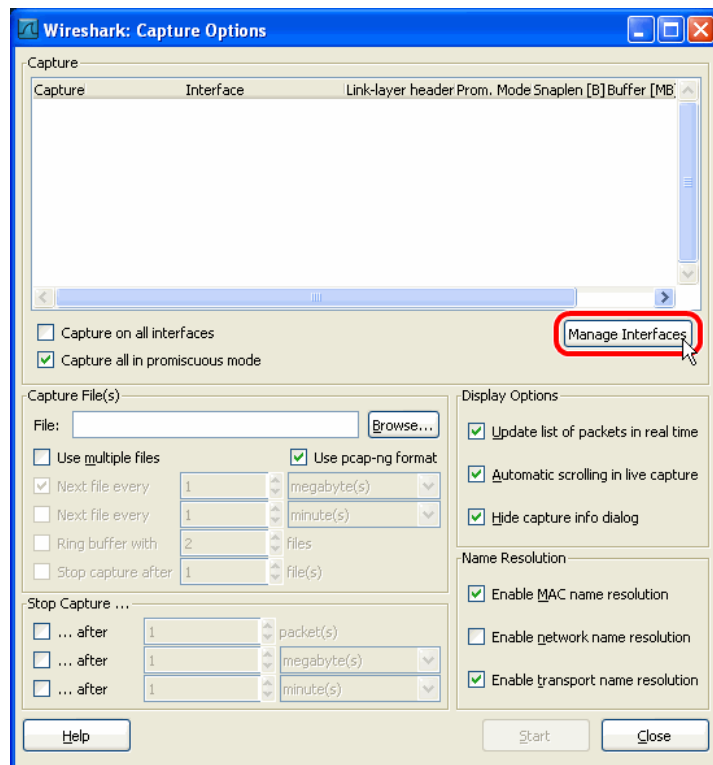

Figure 156: Wireshark Capture Options Dialog.
1. Open Wireshark and choose the menu **Capture → Options...** . This opens the **Capture Options** dialog as shown in Figure 156.